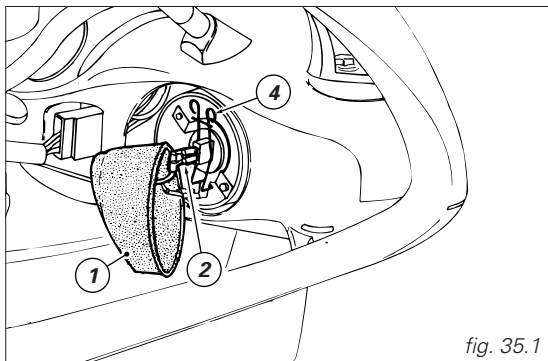

fig. 35.1
low beam bulb (fig. 35.1): remove the rubber cover (1). Press the lower quick-release button to disconnect the connector (2).
Release the clip (4) that secures the bulb and remove it from the socket (fig. 35.1 and 35.2).